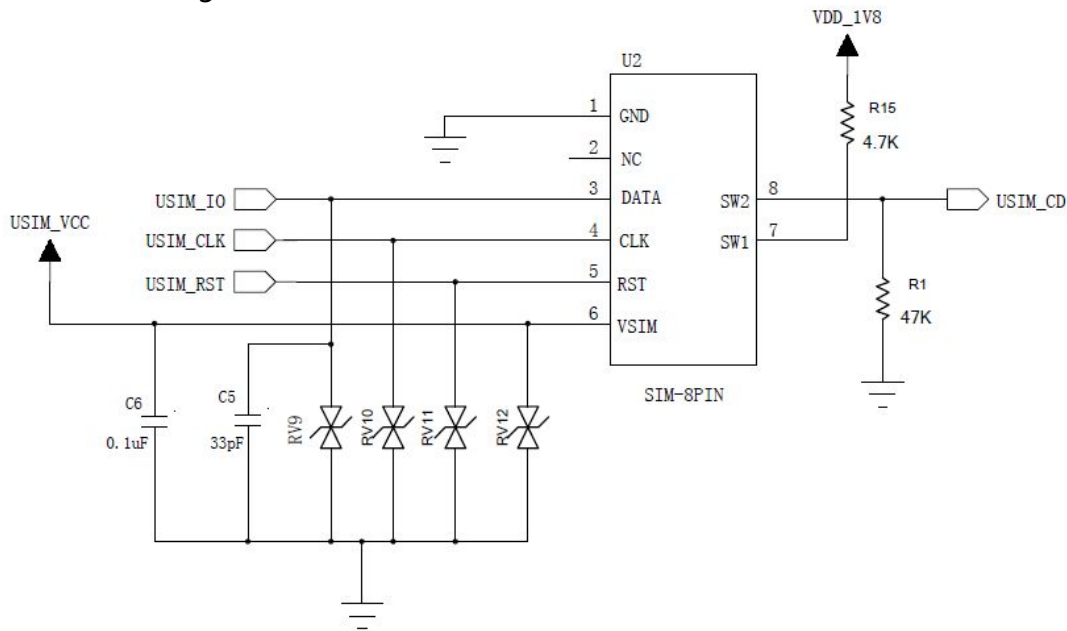

Figure 5-9 Reference Design of “Normally Open” SIM Card Interface
- For “Normal opened” SIM card, as shown in the figure5-9, USIM_CD signal line is connected to U2’ s Pin8 (SW2), and Pin7 (SW1) will be pulled up 4.7K resistor . When the SIM card is not inserted, SW2 and SW1 will be disconnected, then SW2 will be at low level. When the SIM card is inserted, SW2 and SW1 will short circuit, USIM_CD level will be pulled up.